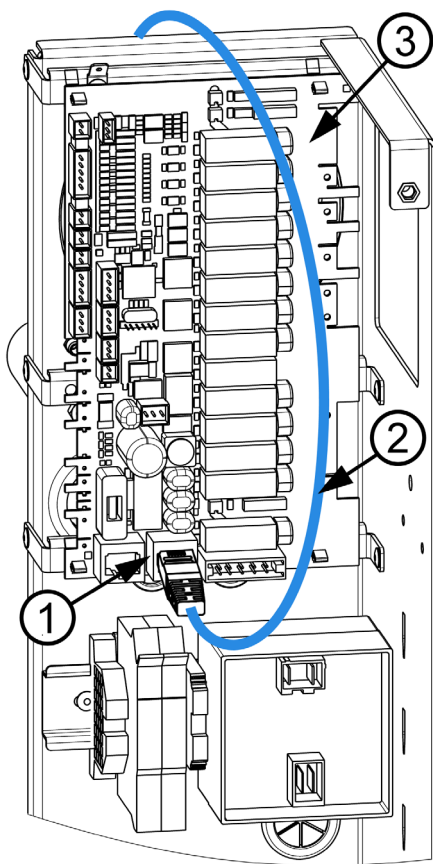

Figure 17: Fitting the UTP cable into the RJ-45 port
Fit the end of the UTP cable (2) into RJ-45 port (1) marked X4 or X5 on the relay panel (3) (see. fig. 17).